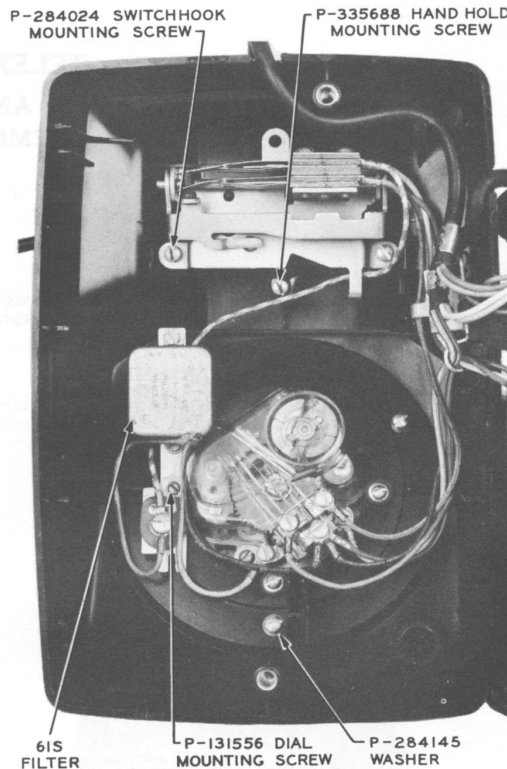

Fig. 6—Installation of 61S Filter
6.01 The 5300- and 5400-series telephone sets may be equipped with a 61S filter as shown in Fig. 6.